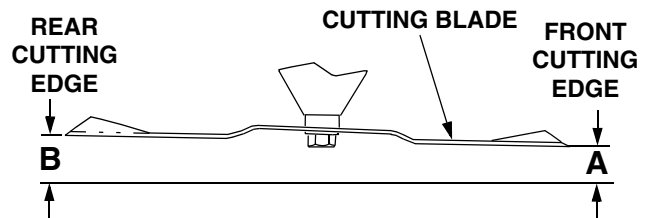

Figure 55
4. Refer to Figure 55. Measure and record the distance from the front cutting edge to the ground (measurement A), and from the rear cutting edge to the ground (measurement B), for each of the blades. The front edge of each blade (measurement A) should be lower than its back edge (measurement B) by 1/8 to 1/4 inch.